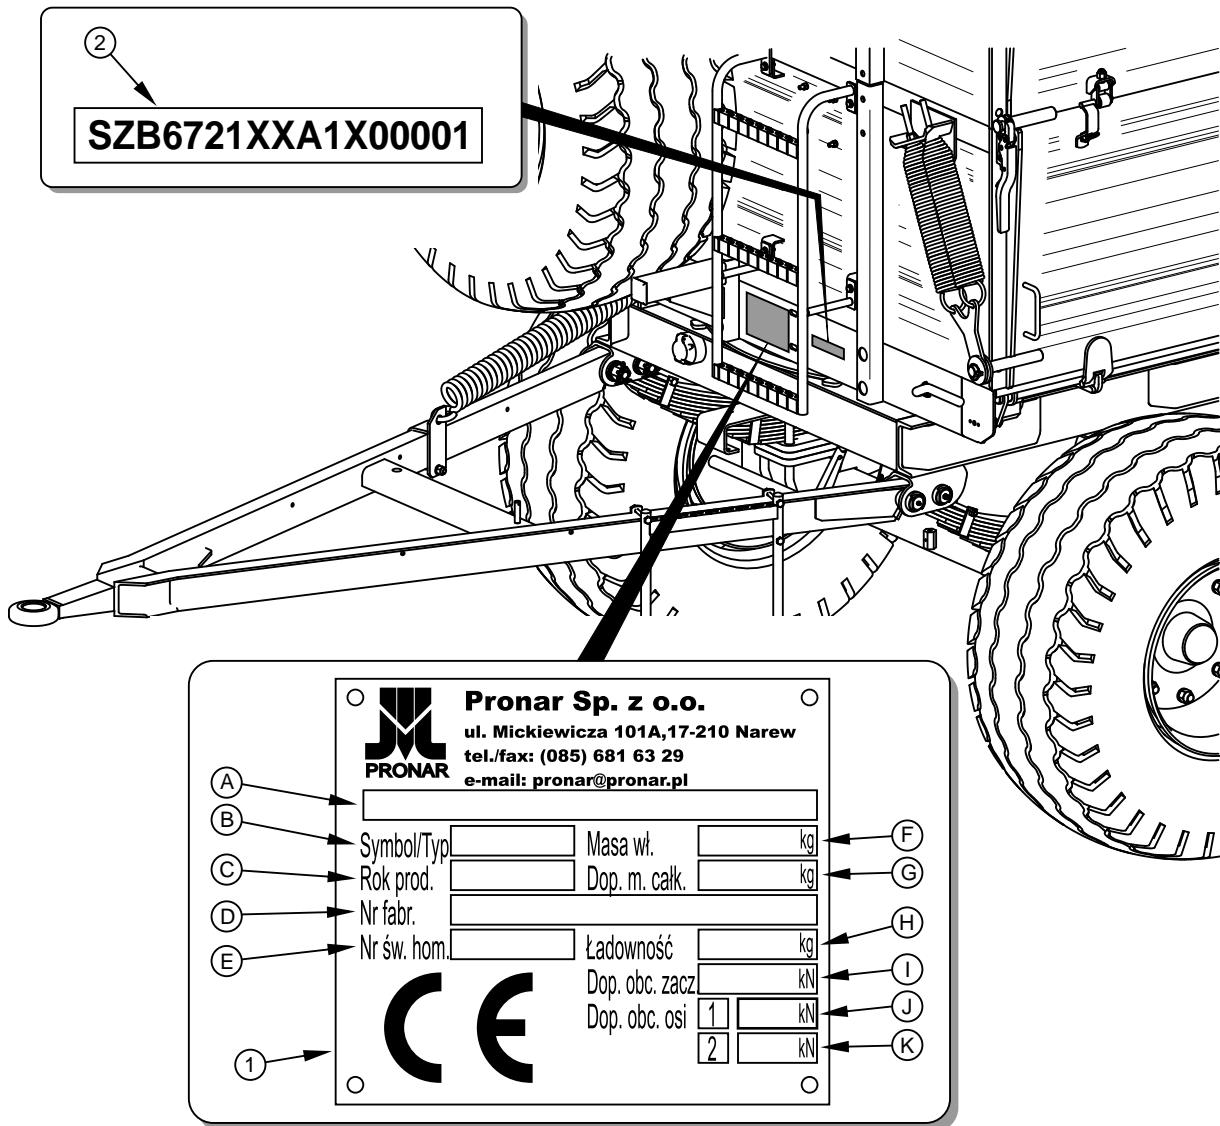

FIGURE 1.1 Location of the data plate and serial number
(1) data plate, (2) serial number
The trailer is marked with the data plate (1), and the factory number (2) located on a gold painted rectangle. The serial number and data plate are on the beam of the trailer's upper frame (Fig. 1.1).